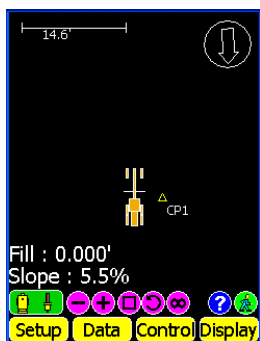

Figure 5-21. Check Icon for Green Status
15. The LPS status button should be green, indicating that 3D LPS control functions correctly (Figure 5-21).